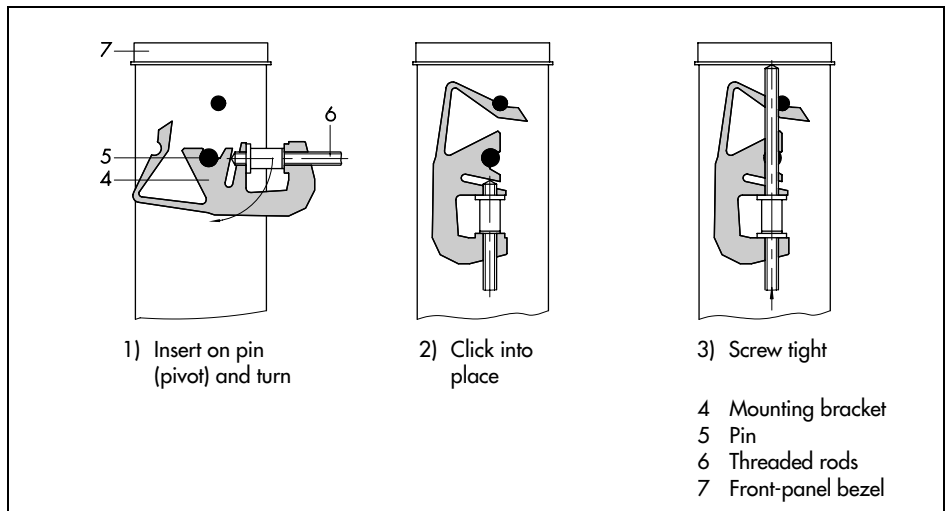

Fig. 2 · Installation (panel-mounting unit)
3. Install one supplied mounting bracket, both on the top and bottom of the control station following steps 1) and 2) shown in Fig. 2 .
4. Turn the threaded rods in the direction of the control panel, using a screwdriver so that the case is clamped against the panel ((step 3), Fig. 2 ).